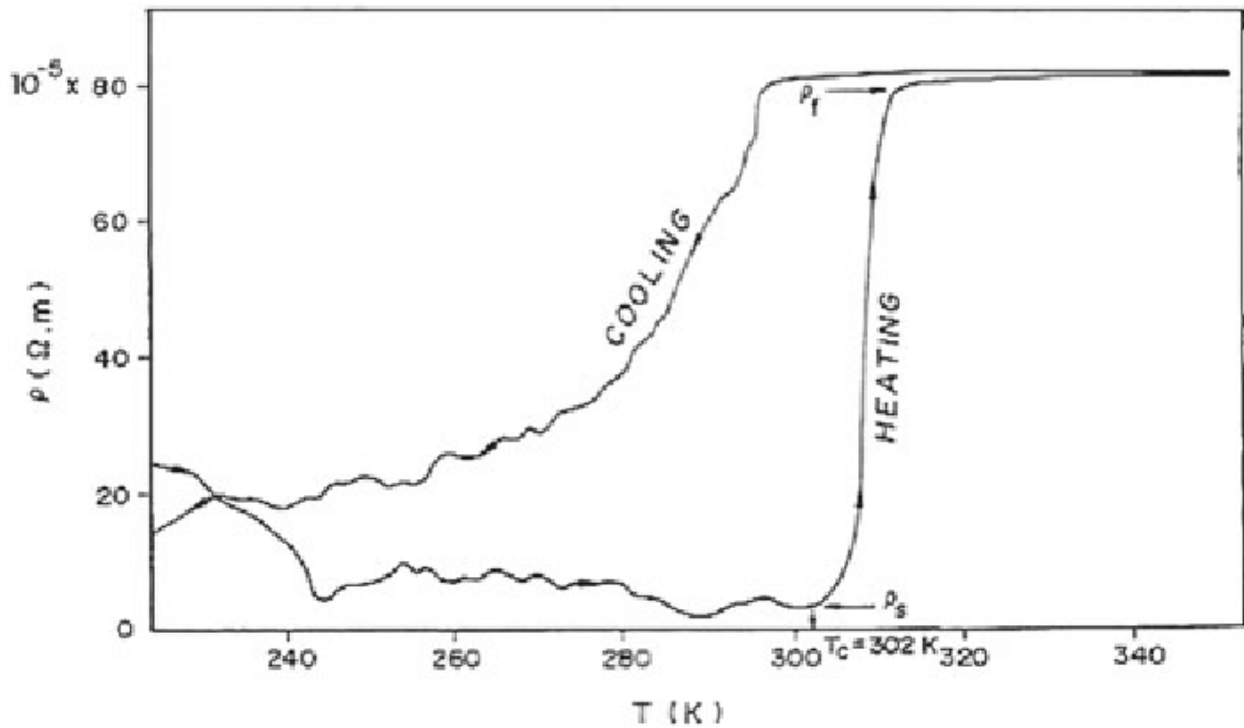

Figure 1: Nitinol Resistivity vs. Temperature [6]
The only variable missing to solve for current is the resistance (R) of the Nitinol spring. Figure 1 shows a graph of the electrical resistivity of Nitinol vs temperature. Assuming a starting temperature of 30 °C (303.15 K) we can see that the resistivity of the Nitinol will initially be around $5 \cdot 10^{-5} \Omega \cdot \text{m}$. For the heated state it raises to 333.15 K with a resistivity of $80 \cdot 10^{-5} \Omega \cdot \text{m}$ [1], [6].